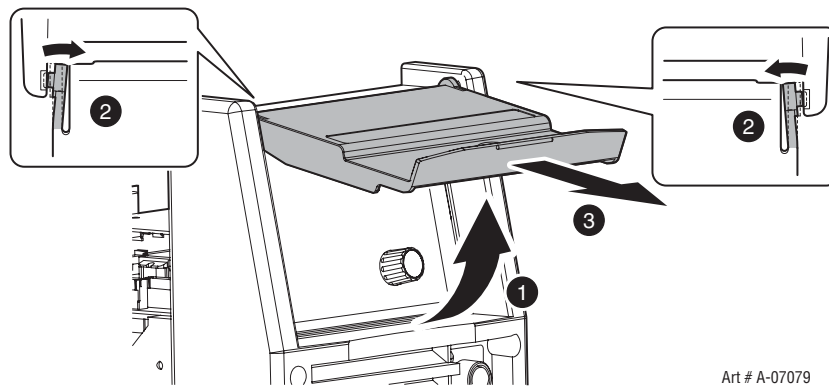

Figure 11-1: VRD ON/OFF Step A
A) Remove the clear plastic cover from the control panel (see Figure 11-1).